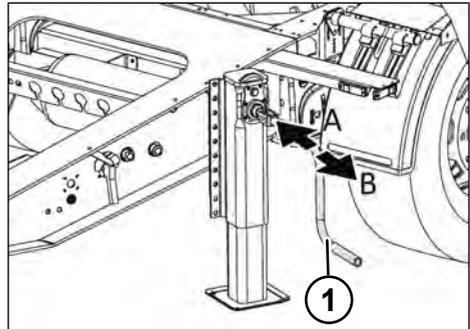

Fig. 5-3: Load speed and rapid speed of the landing leg winch
- ▶ Switch on rapid speed by pulling out the hand crank (see "Fig. 5-3: Load speed and rapid speed of the landing leg winch", pg. 20).
- ▶ Switch on load speed by pushing in the hand crank (see "Fig. 5-3: Load speed and rapid speed of the landing leg winch", pg. 20).
- ▶ Set to load speed by pushing in the hand crank (see "Fig. 5-3: Load speed and rapid speed of the landing leg winch", pg. 20).
- ▶ Set to high speed by pulling out the hand crank (see "Fig. 5-3: Load speed and rapid speed of the landing leg winch", pg. 20).